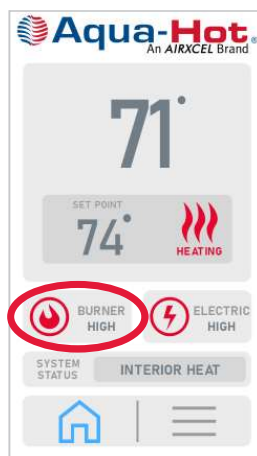

Figure 98
6. Turn the burner on HIGH at the screen (see Figure 98). The burner should cycle on because of the primed fuel lines.